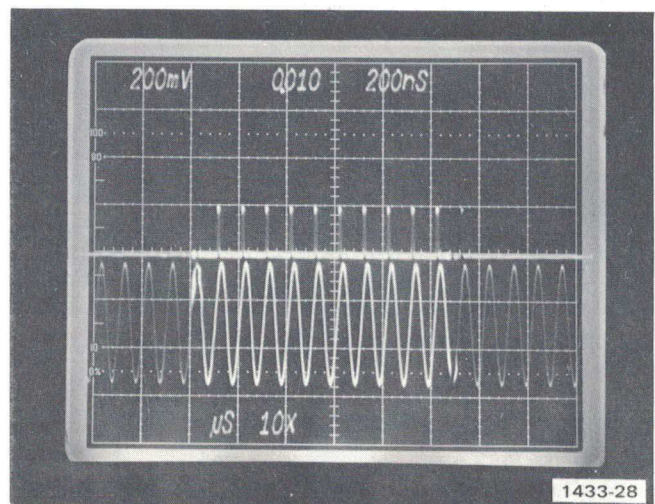

Fig. 5-9. Typical pseudo gate display when A Arm is gated.
h. Check—for displayed pseudo gate pulses occurring only during the intensified portion of the sine wave. See Fig. 5-9 for a typical pulse display.